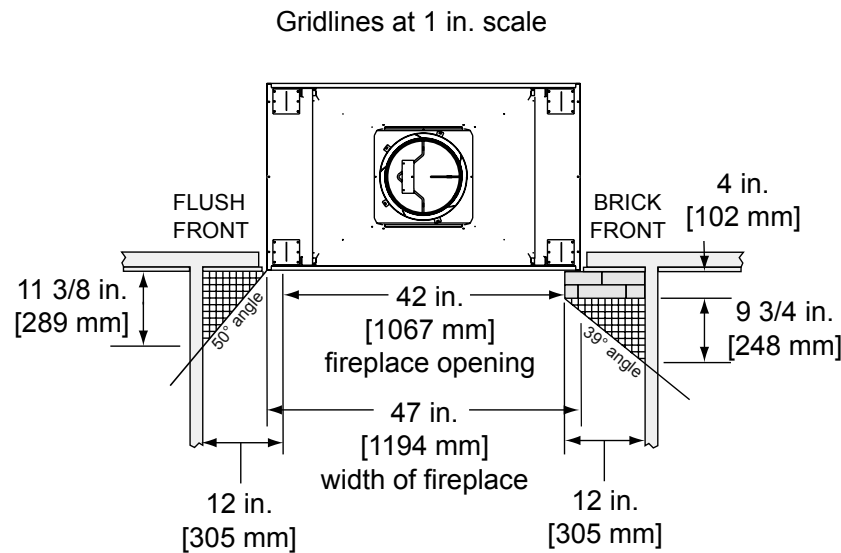

Figure 6.3 Mantel Leg or Wall Projections (Acceptable on both sides of fireplace)
- Combustible and noncombustible mantel legs, surrounds and stub walls may be constructed within the gridded area, Figure 6.3.